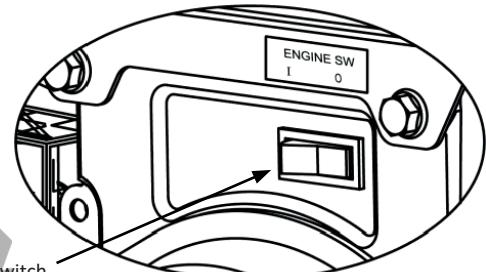

Fig. 4
**Engine switch (Fig. 4)**
3. Turn the engine switch to the "I / ON" position. (See page 4, fig. 4)
To stop the engine in an emergency, turn the engine switch to the "O" position. (See page 4, fig. 4)
2. Turn the engine switch to the "O/STOP" position. (See page 4, fig. 4)